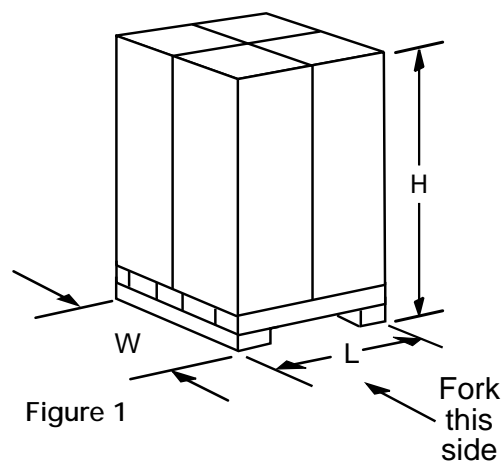

Figure 1
1. Upright in carton 4 per pallet, see figure 1.
2. Upright inside cabinet (risers shipped separate or customer supplied) 4 per pallet, see figure 1.
TSM Cabinet without risers attached can ship upright 4 per pallet, see figure 1.